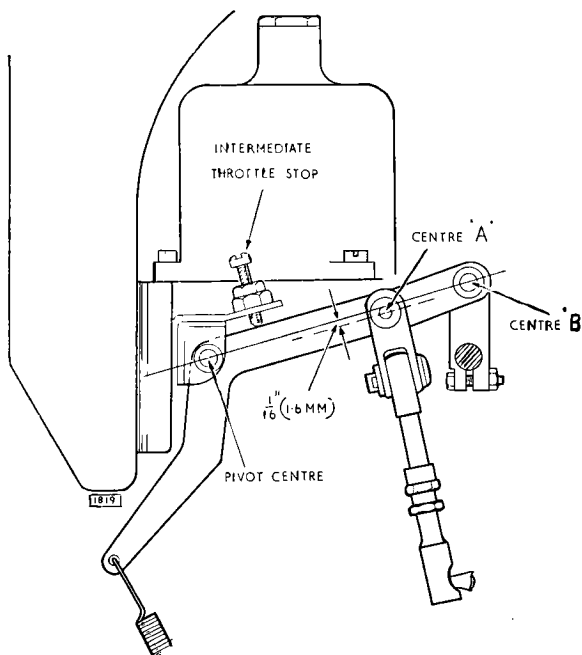

Fig. 13. Throttle control linkage setting.
- (ii) Unscrew intermediate throttle stop and push down on bell crank lever until centre "A" is $\frac{1}{16}$ " (1.6 mm.) below a line from centre "B" to pivot centre (Fig. 13). When in this position screw down stop on to intermediate throttle lever and lock in position. Lock lever to carburetter spindle.